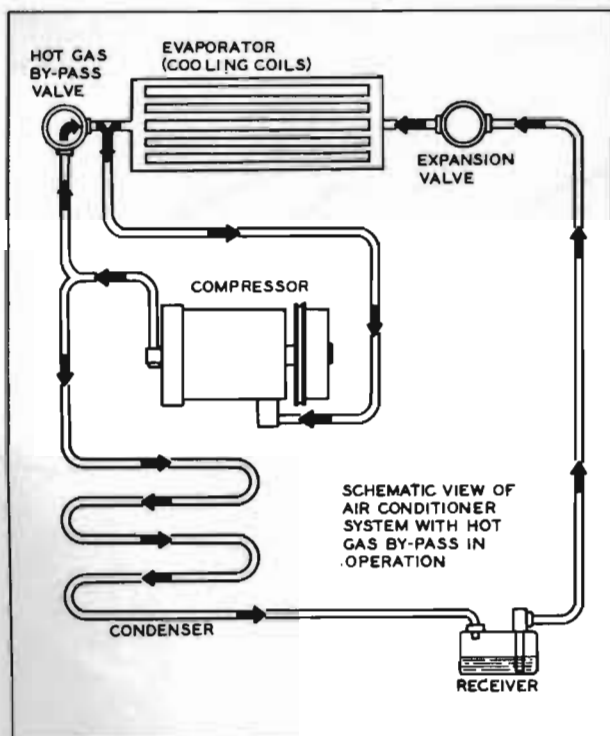

Figure 11-46—Air Conditioning System—Schematic
7. *Hot Gas By-pass Valve.* Figure 11-46 is a schematic view of the operating refrigeration cycle using the hot gas by-pass valve and showing this valve's relative position in the system.